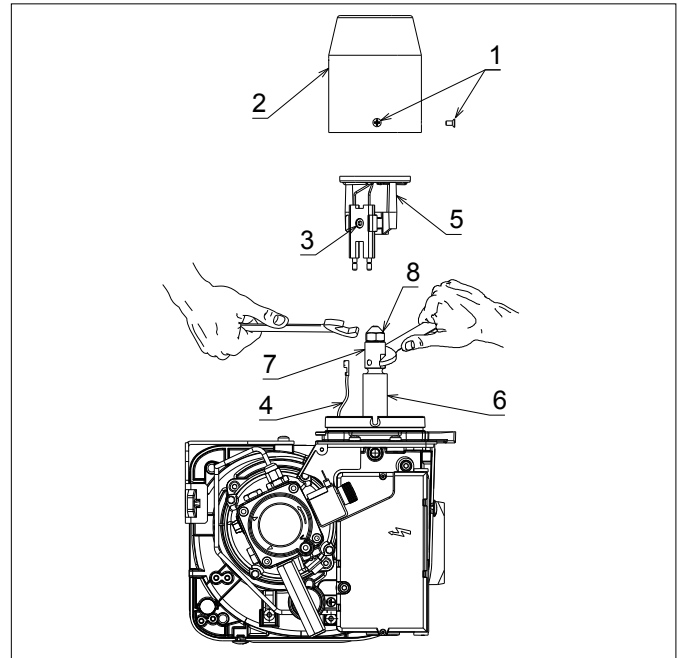
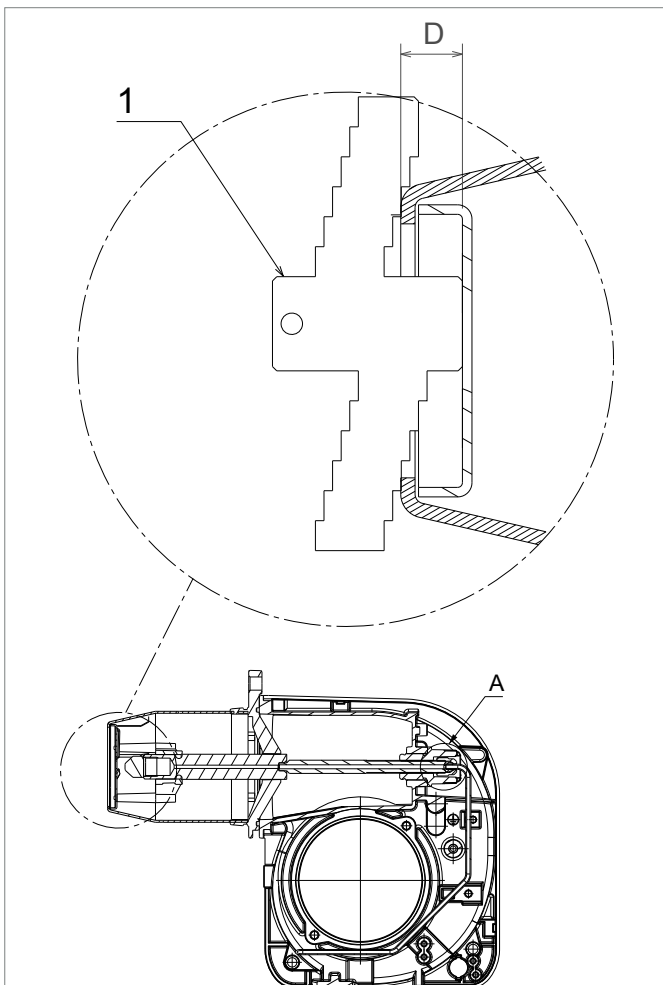

Figure 10-3: Burner head, recirculation tube (if fitted) diffuser and nozzle holder
Figure 10-5: Riello RDB 2.2 BX diffuser position and gauge plate
1. Remove the burner head. Refer to Figure 10-3. Loosen the three fixing screws (1) and remove head (2) from burner.
3. If the nozzle needs to be replaced - remove the diffuser/ electrode assembly. Refer to Figure 10-3.
- Using a 4 mm Allen key, loosen the diffuser fixing screw (3) on the electrode assembly.
- Lift diffuser/electrode assembly (5) up and off the nozzle holder.
- Disconnect both ignition leads (4) from the electrodes.
4. Use a 16 mm spanner to remove/re-fit the nozzle (8), whilst holding the nozzle holder (6) using a 19 mm spanner.
5. Re-fit the diffuser/electrode assembly. Refer to Figure 10-3.
- Reconnect ignition leads (4) to electrodes.
- Re-fit the diffuser/electrode assembly (5) onto the nozzle holder lining up the fixing screw with the recess in the nozzle holder.
- Tighten the fixing screw (3) to secure the diffuser/ electrode assembly in place on the nozzle holder.
7. Re-fit the burner head. Refer to Figure 10-3.
- Locate the head fixing screws (1) in the countersunk slots in the burner collar.
- Tighten the three screws (1) to secure the head (2) in position on the burner.
8. Adjust the diffuser position. Refer to Figure 10-5.
- Position the gauge plate on the burner head as shown in Figure 10-5.
- If necessary, adjust distance D using the black adjustment knob located around the oil supply pipe on the front of the burner. Refer to item A (Figure 10-5). Re-check distance D using the gauge plate, as described above.